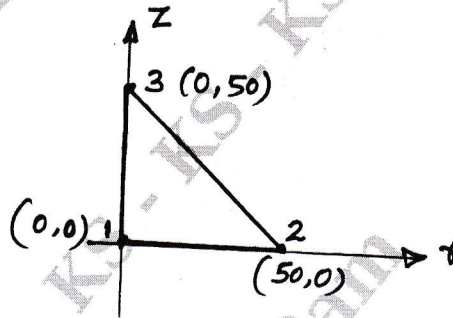

Fig Q9(b)
- b. For the axisymmetric element shown in Fig Q9(b), determine the strain displacement matrix [B]. Take  $E = 200\text{GPa}$ , and  $\nu = 0.3$